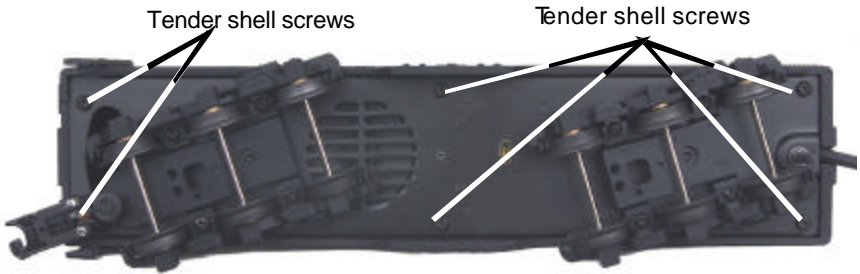

Figure 10: Removing The Tender Body
1. Remove the body from the chassis by removing the 6 screws shown in Fig. 10.